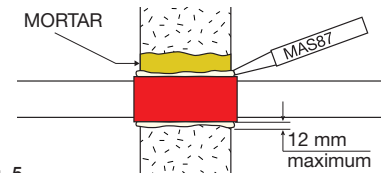

Fig. 5
D. Gaps around FireBrake of up to 12mm should be made good with Domus MAS87 Acoustic Intumescent Mastic to provide both a complete smoke seal and a reduction in sound transmission through the duct system (fig.5).